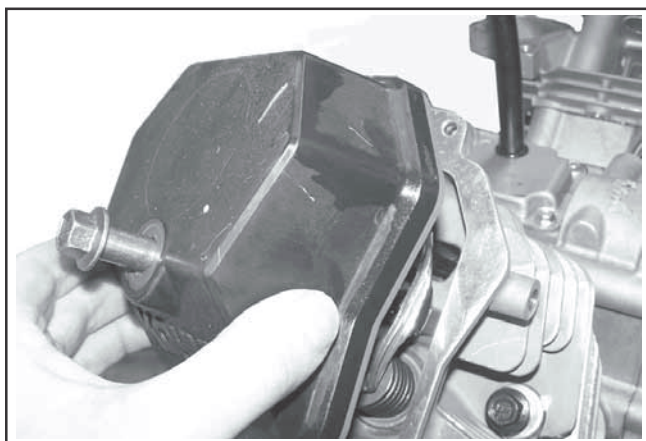

Figure 8-38. Removing Valve Covers.
2. Remove the valve cover and gasket from each cylinder head. Note the locations of individual valve covers if they are different. See Figure 8-38.